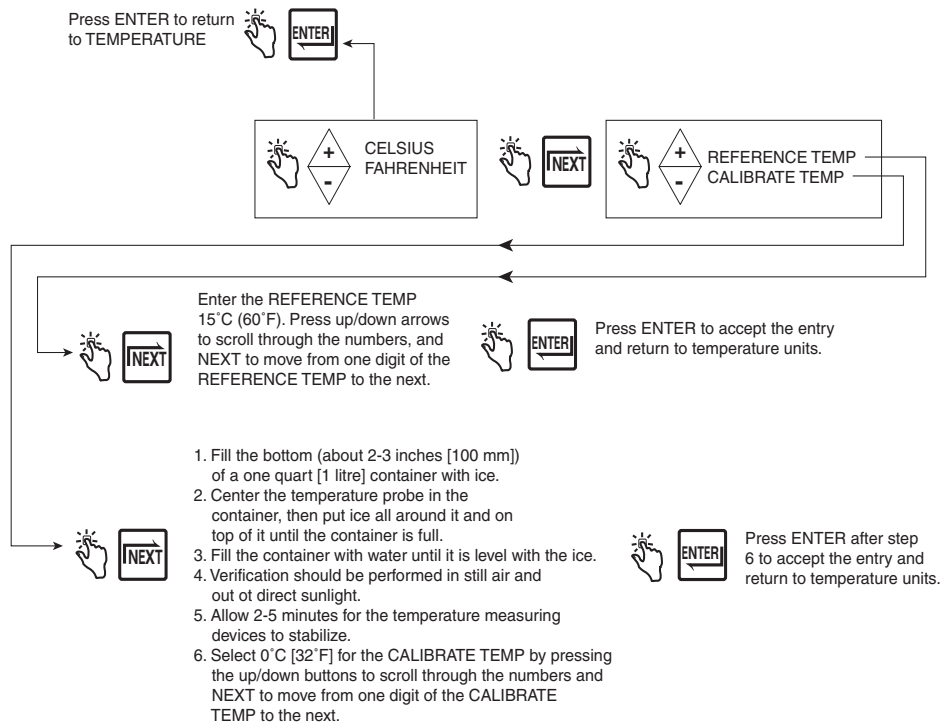

Figure 38. Temperature Calibration Setup
Figure 38 illustrates Temperature Probe Calibration setup choices.
2. The reference temperature is the temperature at which the net volume will be compensated (TC). The net volume is calculated from the gross volume adjusted for the difference between the fluid temperature and the reference temperature. To revise the reference temperature, follow the steps as shown in Figure 38, Temperature Calibration Setup. Typically the reference temperature is set to 15°C when using Celsius or 60.0°F when using Fahrenheit.